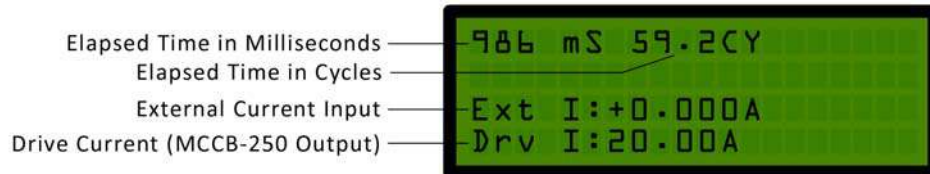

Figure 2. Typical MCCB-250 Test Results Screen
The MCCB-250's built-in time/cycle counter can be used to time events in milliseconds and cycles. The elapsed time is displayed on the LCD screen along with the test current after a test is completed. A typical test results screen is shown in Figure 2. The timer is turned on when the ON+TMR mode is selected.
The MCCB-250's **[EXT CURRENT]** input serves as a built-in amperes meter that can be used to monitor an AC current. This current is isolated, and the maximum input current is 10 amperes. A typical application for this feature is to measure a current transformer (CT) current ratio. The MCCB-250 can be used to output a current to the CT primary input. The CT secondary output is then connected to the MCCB-250's **[EXT CURRENT]** input. Both the MCCB-250 output current and the CT secondary current are displayed on the LCD screen (see Figure 2). The user can use the displayed values to quickly calculate the CT current ratio manually.